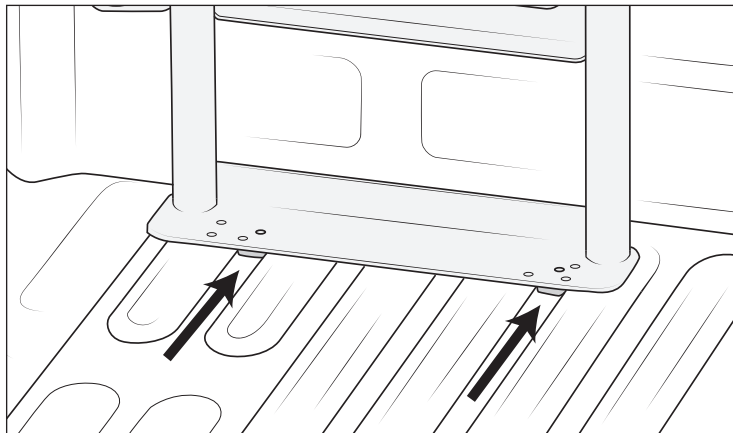

Figure 4
3. Place the two provided Spacers under the Tire Carrier as shown (fig. 4). Adjust the Tire Carrier position side to side to align with spacer holes. Check that the Bulkhead Bracket is aligned with the Tire Carrier and adjust as necessary.